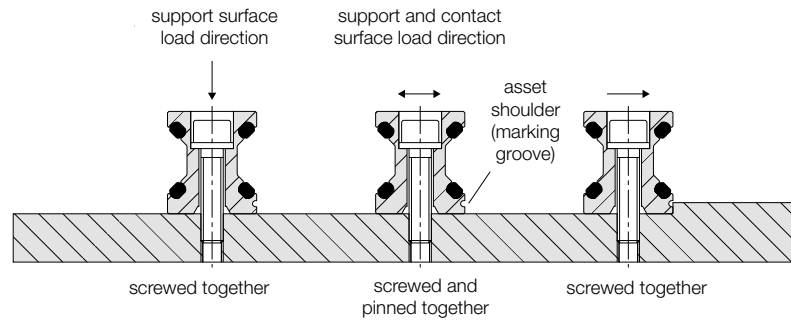

Figure 5: Mounting rail
3. be placed against a asset shoulder and screwed together (Figure 5).